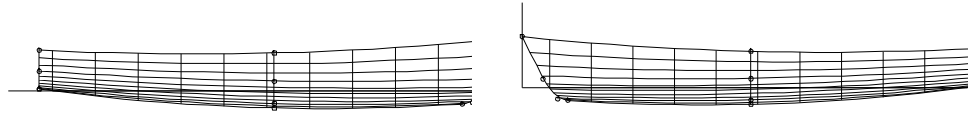

Fig. 2
- 4** **Choose**  or **<F>** to see the whole boat (Fig. 2, left)
- 6  to see the whole boat — it is now stretched along the negative X-axis with its bow toward positive X (Fig. 2, right). Some designers prefer this orientation.